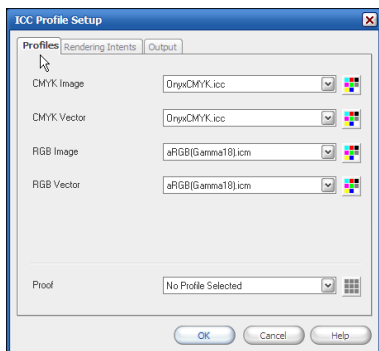

Figure 2—ICC Profile Setup
3. If you want to customize the profile setup, click **Change Profiles**. This opens the **ICC Profile Setup** dialog (see Figure 2). Select the input profiles, output profiles, and rendering intents you want to use, and click **OK**.